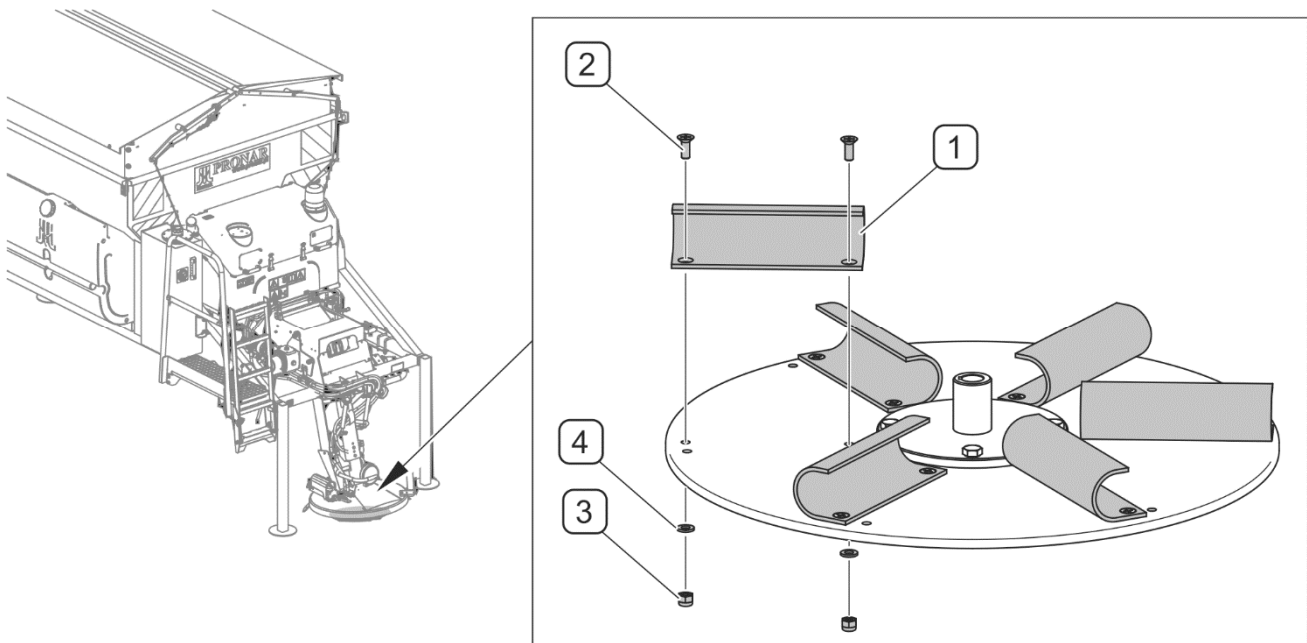

FIGURE 5.14 Replacement of spreading mechanism disc blades
- Undo nuts (3) (FIGURE 5.14).
- Remove bolts (2) and washers (4).
- Replace blades (1) with new ones, check condition of bolts and nuts, if necessary replace (see TABLE 5.4).